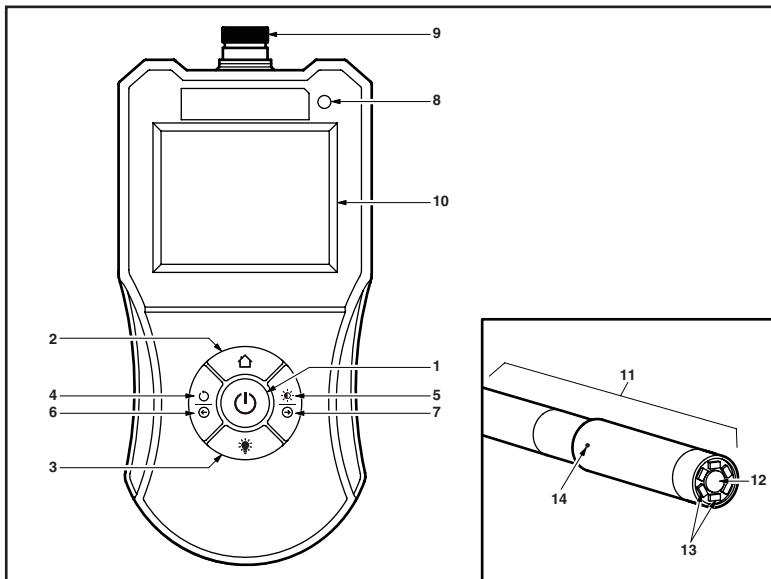

Figure 1. Controls and Indicators
See Figure 1 for the locations of items 1 through 10, below.
6. **⬅ LEFT/DECREASE button** – Depending on the selected operating mode (see items 2 through 5 above), rotates the displayed image to the left or decreases color balance, LED brightness or LCD display brightness, as appropriate.
7. **➡ RIGHT/INCREASE button** – Depending on the currently selected operating mode (see items 2 through 5 above), rotates the displayed image to the right or increases color balance, LED brightness or LCD display brightness, as appropriate.